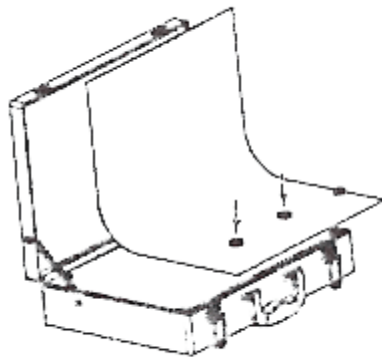

Fig. 3
- d) Choose the desired Background Paper from the Background Holder. Use 3 Magnetic Holders to put one end of the Background Paper in position against the metal strip on the Diffuser Plate (Fig. 3).